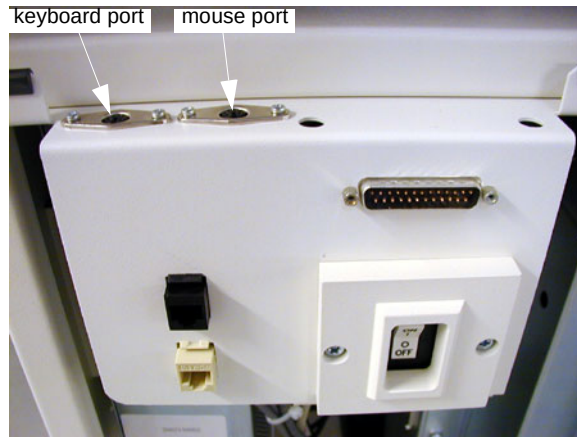

Figure 2-7 Global Console front bulkhead, showing keyboard and mouse connections
- 2.) The keyboard and mouse connect to the ports on the top of the console front bulkhead. The mouse connects to the port on the right, the keyboard connects to the left port (Figure 2-7).